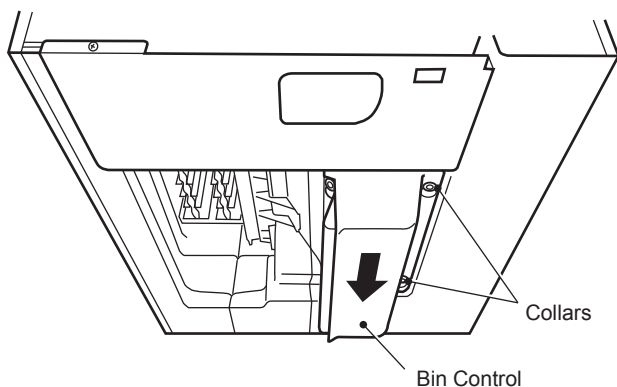

Fig. 5
- 7) While pulling up the bin control lead, hook the bin control on the right side interior wall. Then push the bin control up against the bottom of the unit, and slide to the back until it snaps in place. Make sure the slotted holes at the right side of the bin control are securely placed on the collars at the bottom of the unit. See Fig. 5.